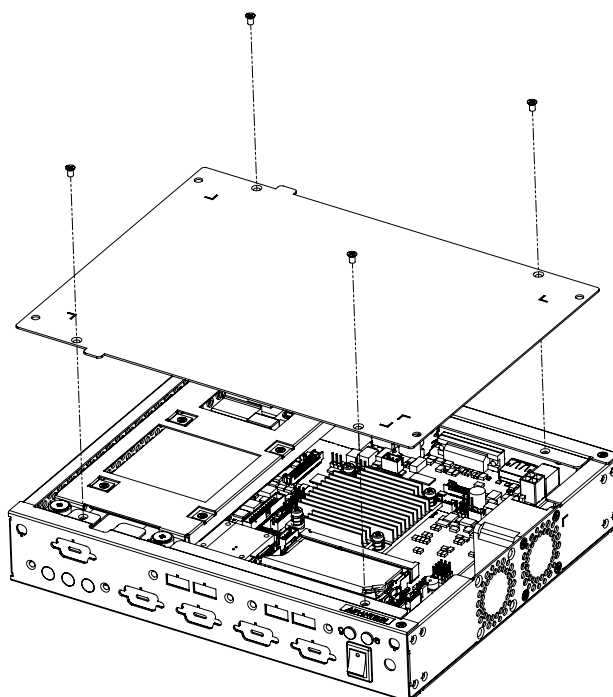

Figure 2.10 Close the Chassis Cover/ 盖上机箱顶盖 / 蓋上機箱上蓋
- Figure 2.10 Close the Chassis Cover/ 盖上机箱顶盖 / 蓋上機箱上蓋 10